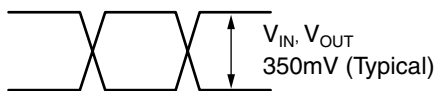

Figure 1c. Single-Ended Swing
**Note 5.** See Figures 1c and 1d for  $V_{DIFF}$  definition.
**Note 4.** See Figure 1c.